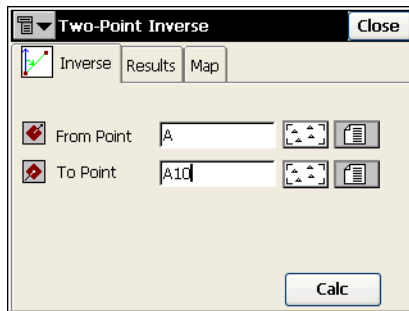

Figure 8-1. Two-Point Inverse
1. Select the points for the task from map or from the list (Figure 8-1).